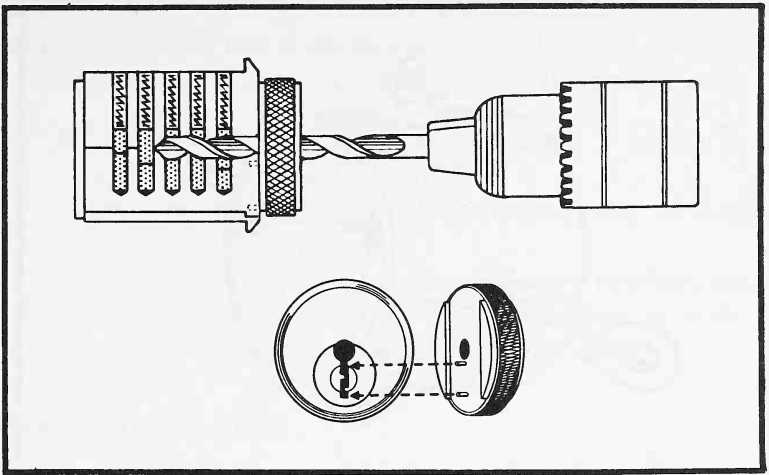

Fig. 23-1. Drilling above the shear line of a pin-tumbler lock. (Courtesy Desert Publications.)
2. Drill about $\frac{1}{8}$ in. above the shear line or shoulder of the plug and directly above the top of the keyway (Fig. 23-1). You can use a drilling jig to ensure drilling at the proper point on the lockface. Use a $\frac{1}{8}$ in. or $\frac{3}{32}$ in. drill.